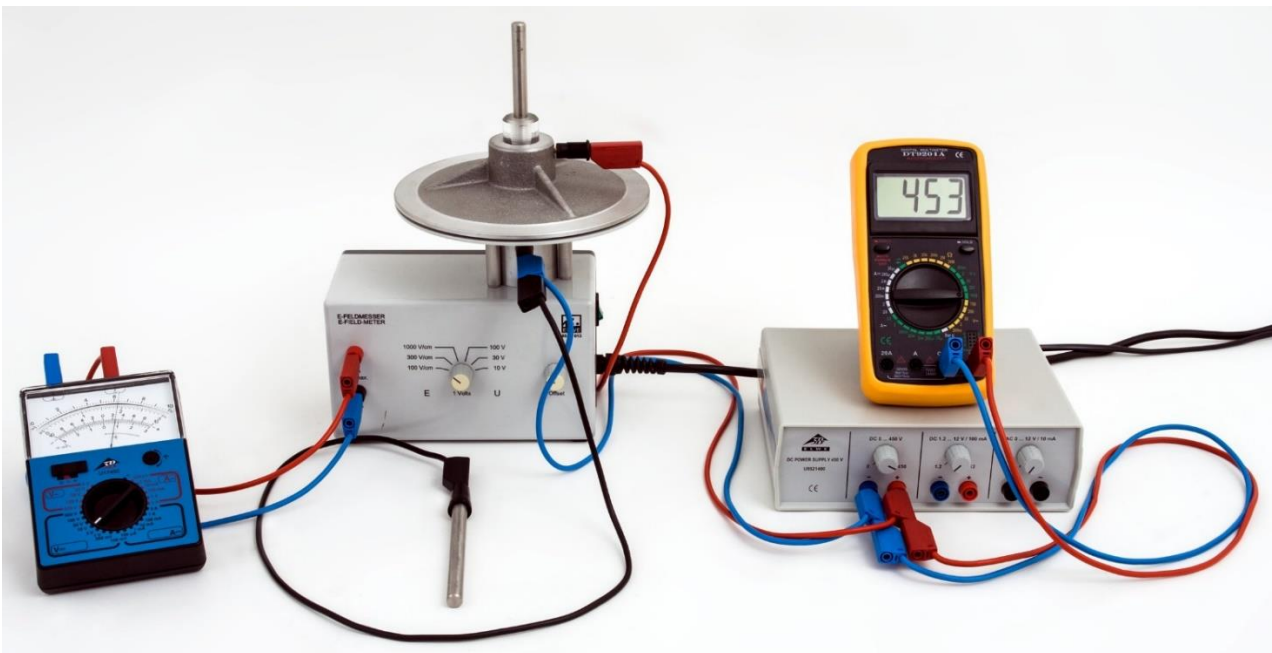

Fig. 1: Measurement set-up
- Set up the experiment as shown in Fig. 1. Do not turn on the DC power supply yet.